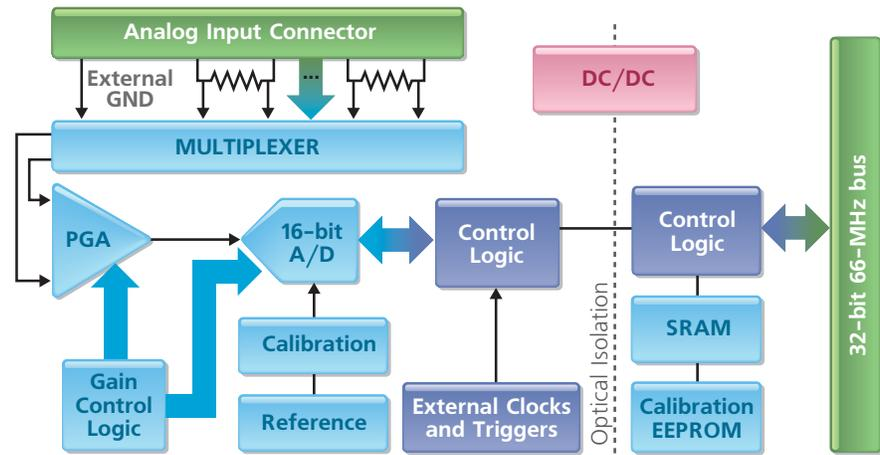

Figure 1-2. AI-202 Architecture Block Diagram
The AI-202 layer is physically divided into isolated (IS) and non-isolated (NIS) parts, as illustrated in the block diagram of **Figure 1-2**. The non-isolated part is powered from DC/DC converters located on the CPU layer. These converters provide 5V and 3.3/2.5V to power all NIS electronics.